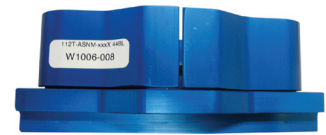

Figure 8
9. Place manifold on top of plunger and head assembly. It may be necessary to move heads on plunger to have valves align with valve pockets on manifold. Be careful not to lose the O-rings and valves or the white gaskets in the manifold during reassembly. Figure 8 shows moving heads on plunger to align with valve pockets. You may hear a click when everything is aligned.